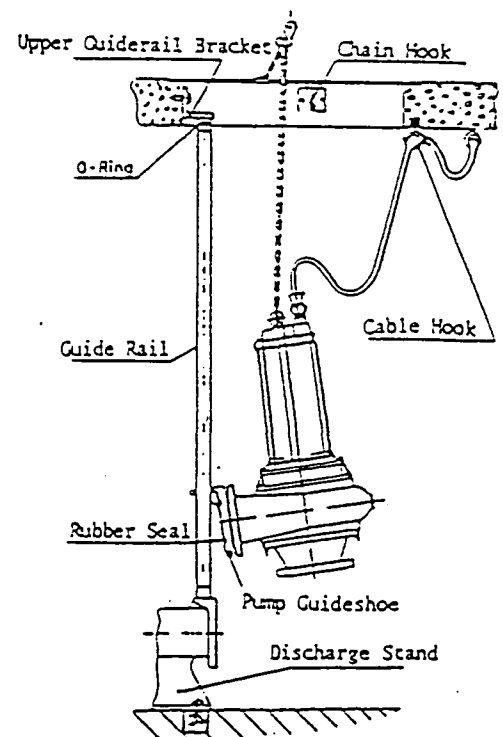

Fig. 3
1.5.1 Installation of Pump Guide System (see fig. 3)